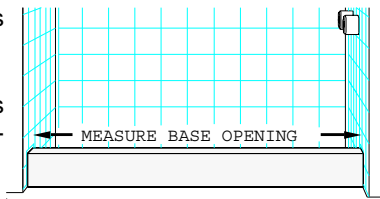

figure 1
1. Measure the base opening along center of shower curb as shown in figure 1, then trim Sill (A) to measurement obtained.